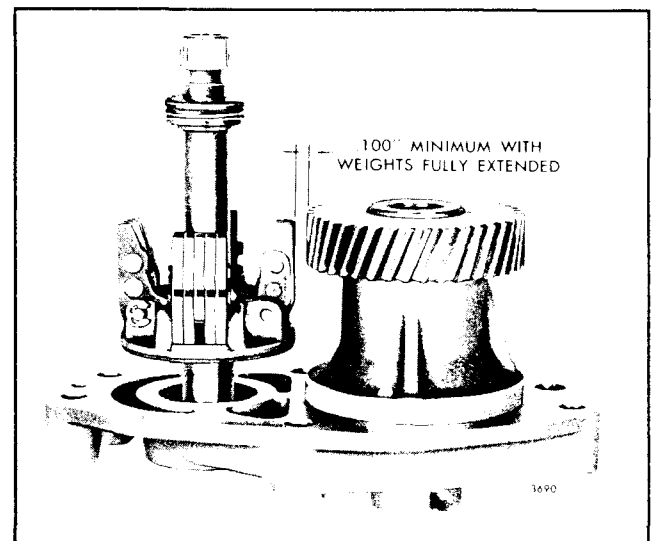

Fig. 19 - Minimum Clearance Between Blower Drive Gear and Governor Weights
7. Check the clearance between the fully extended governor weights and the blower drive gear. This clearance must not be less than .100" (Fig. 19).